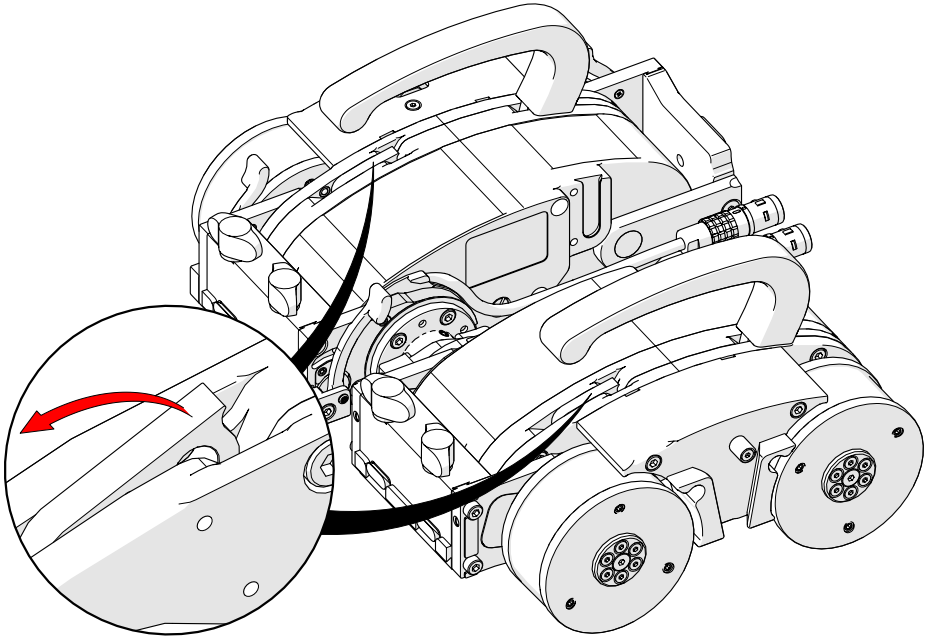

Fig. 75 - Lift tether attachment points
1. Lift the two tether attachment points (Fig. 75).